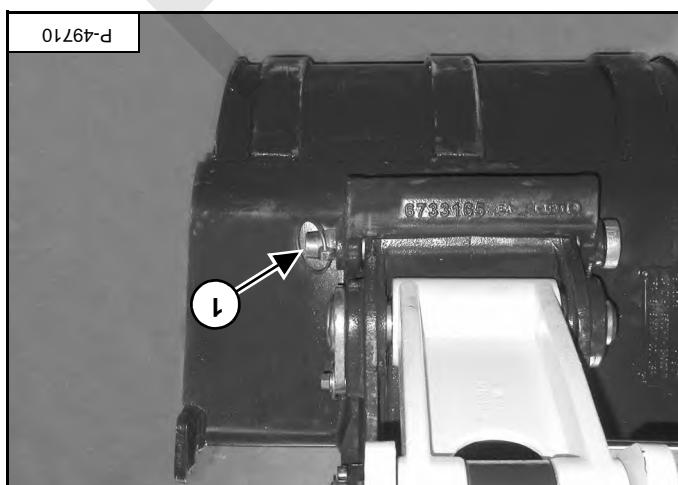

Figure 122
Remove the retainer pin [item 1] [Figure 122].